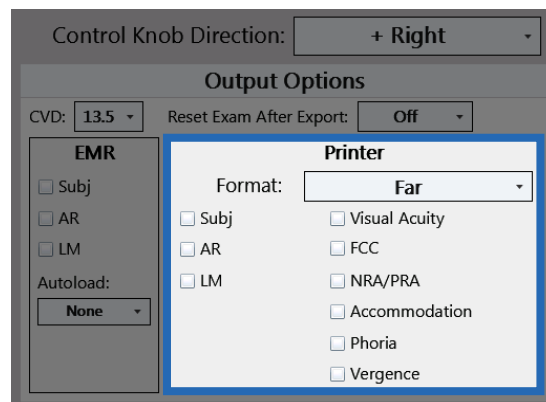

Figure IS-26, Printing Options
7. Select the data to print in the Output Options in the Settings menu, in the lower right corner of the screen. Refer to Figure IS-26. The data printing options include: